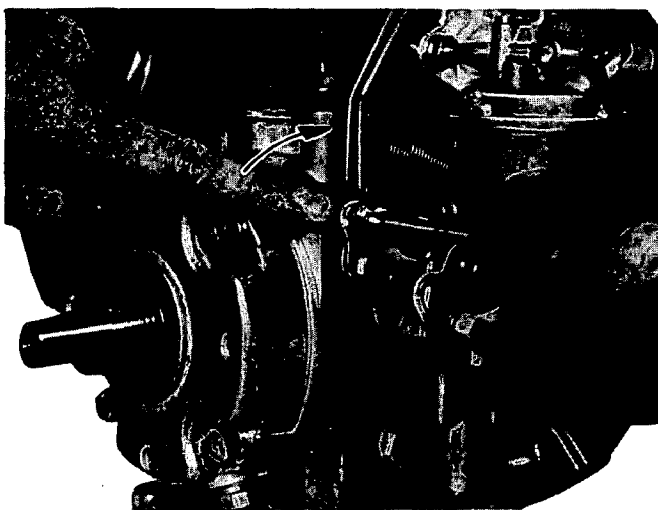

Fig. 8-2-2
- 3) As shown by the arrow on Fig. 8-2-2, move adjusting plate all the way until it will not travel any more.